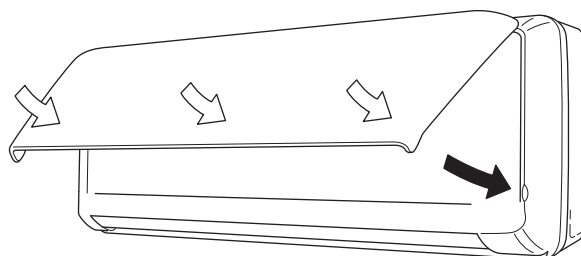

Fig. 19-4
- (6) After closing the front panel, press firmly on the parts indicated by the arrows to securely fasten the panel in place. (Fig. 19-4)